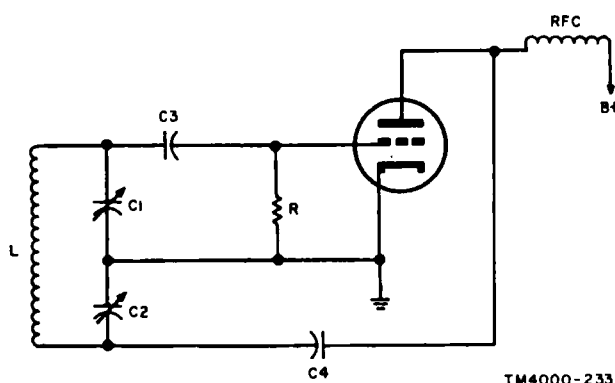

Figure 57. Oscillator circuit.
a. The circuit in figure 57 is that of a widely used oscillator. It is used to assist in troubleshooting oscillators. The parts referred to in the text are marked on the diagram.
multimeter across grid-leak resistor R (fig. 57). The grid will be several volts negative with respect to the cathode if the stage is oscillating. If it is not oscillating, there will be little or no voltage present. Do not use a low-resistance meter; the circuit will be loaded down and the stage will cease oscillating if it had been in operating condition.
c. Hold the indicator loop near inductor L (fig. 57); if the circuit is operating and is tuned to resonance, the bulb will light. Do not hold the loop too close to L, because the lamp may burn out. This method cannot be used with receiver oscillators because there usually will not be enough energy to light the lamp.
d. Another quick check is to detune the oscillator slightly by rotating C1 or C2 (fig. 57) a small amount in either direction. If the stage is oscillating, detuning will cause a change in the meter indications in the buffer or final amplifier circuits. If the oscillator is not operating, there will be no change in the meter indications as the circuit is detuned.